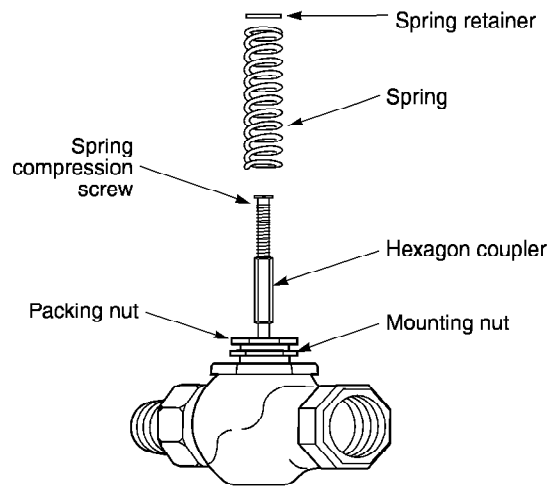

Figure-2 Assembly of AV-400 Linkage Kit onto VB-7XXX Series Valve.
2. Start the spring compression screw one turn or more into the hexagon coupler. Pull the valve stem completely up (Figure-2).